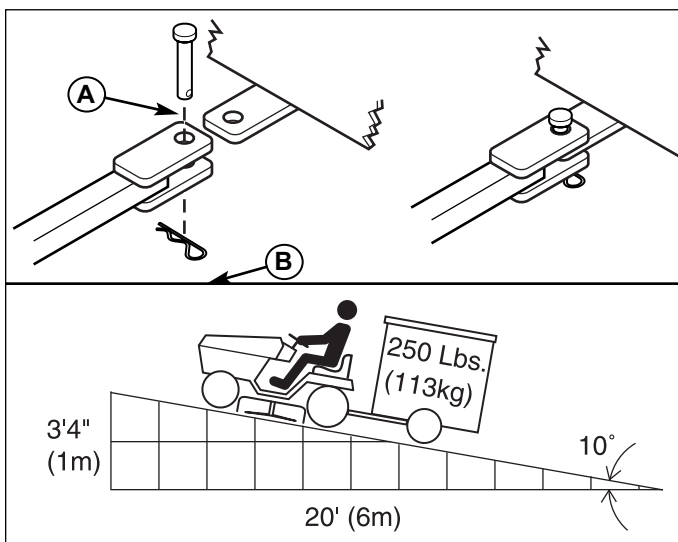

Figure 10. Trailer Weight Recommendations
The maximum horizontal drawbar force allowed is 280 Newton. The maximum vertical drawbar force is 160 Newton. This equates to a 250 lbs (113 kg) trailer on a 10 degree hill. Secure the trailer with an appropriately sized clevis pin (A, Figure 10) and clip (B).